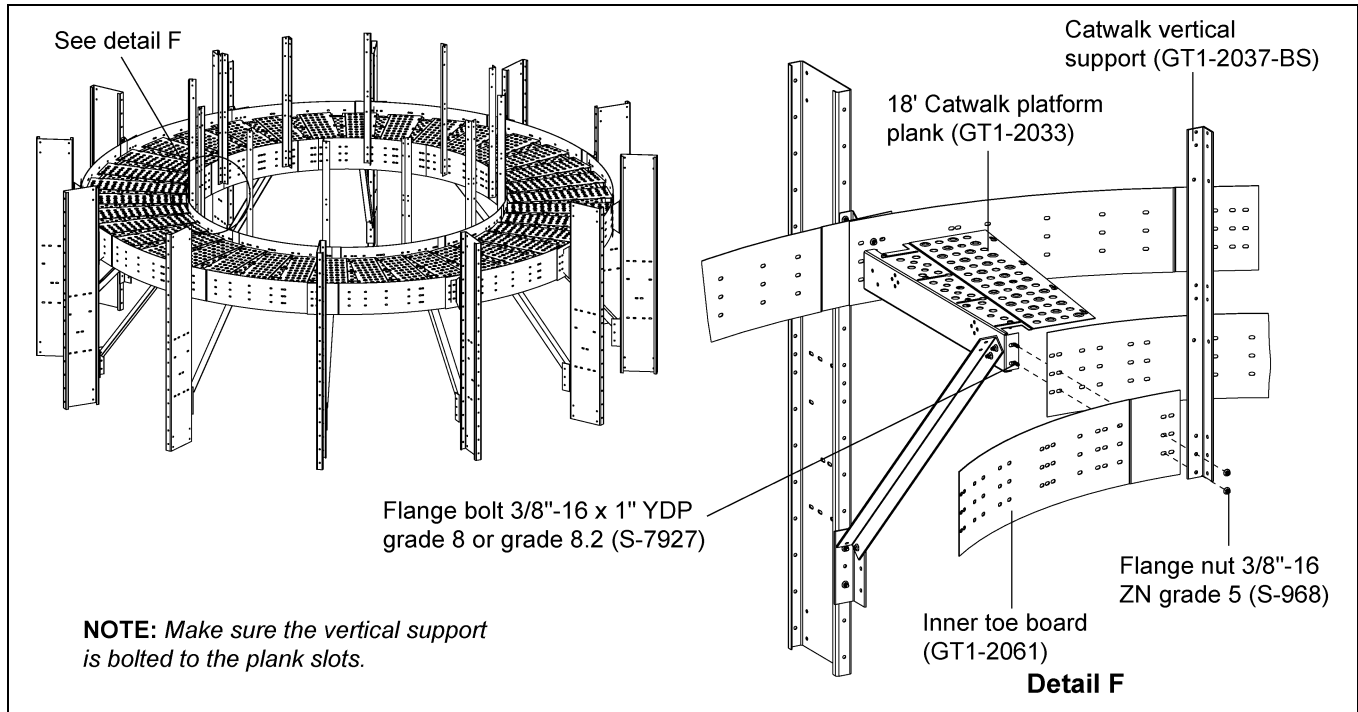

Figure 5J
1. Install all the inner toe boards (GT1-2061) to the planks (GT1-2033). (See Figure 5J.)
2. When installing the inner toe board with planks, install the catwalk vertical support (GT1-2037-BS) simultaneously at proper locations using 3/8"-16 x 1" YDP grade 8 or grade 8.2 bolts (S-7927) and 3/8"-16 ZN grade 5 nuts (S-968). (See Figure 5J.)